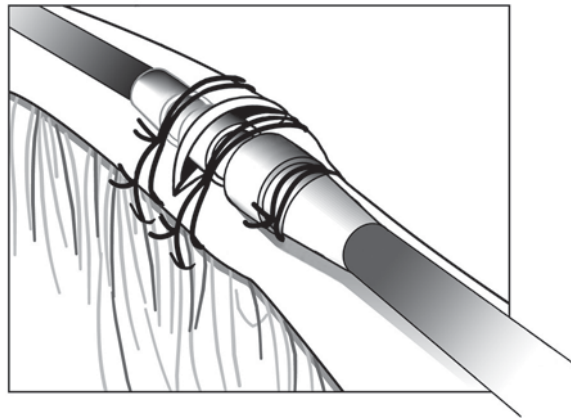

Figure 12. Example of suture sleeve, venous cutdown technique
3. Using the same groove, secure the lead and vein to the adjacent fascia (Figure 12 Example of suture sleeve, venous cutdown technique on page 26).